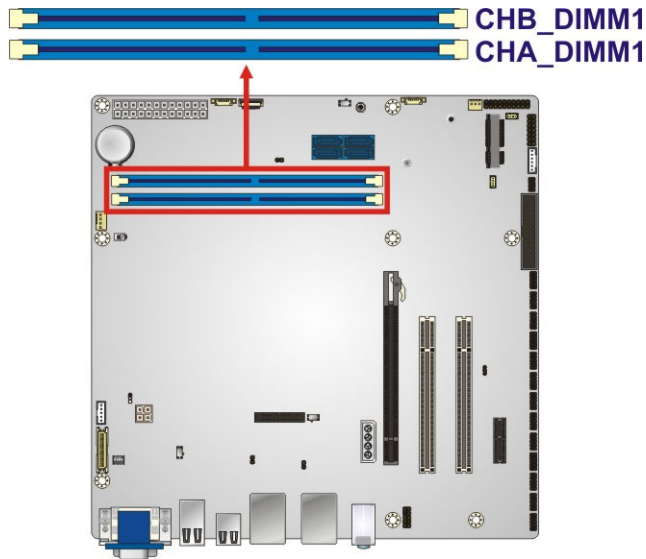

Figure 3-9: DDR4 DIMM Socket Locations
- CN Location:** See **Figure 3-9**